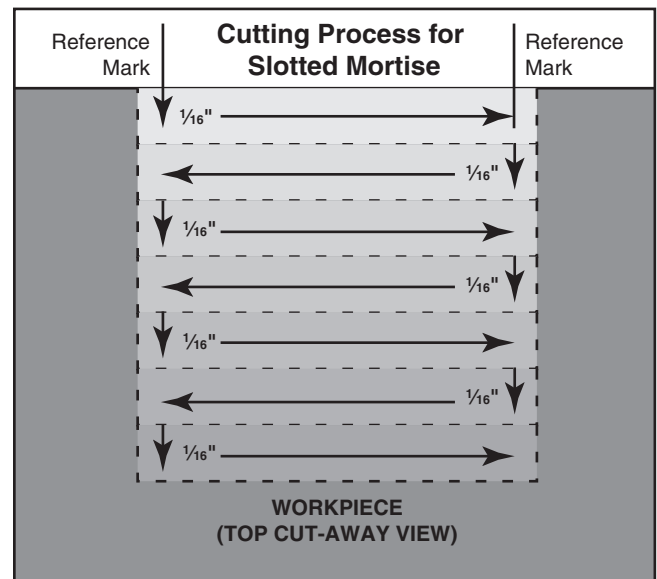

Figure 26. Cutting process for slotted mortise.
- Use feed handle to align bit with one outer reference mark and feed workpiece no more than $\frac{1}{16}$ " into bit, then move workpiece across bit to remove material between reference marks (see **Figure 26**).